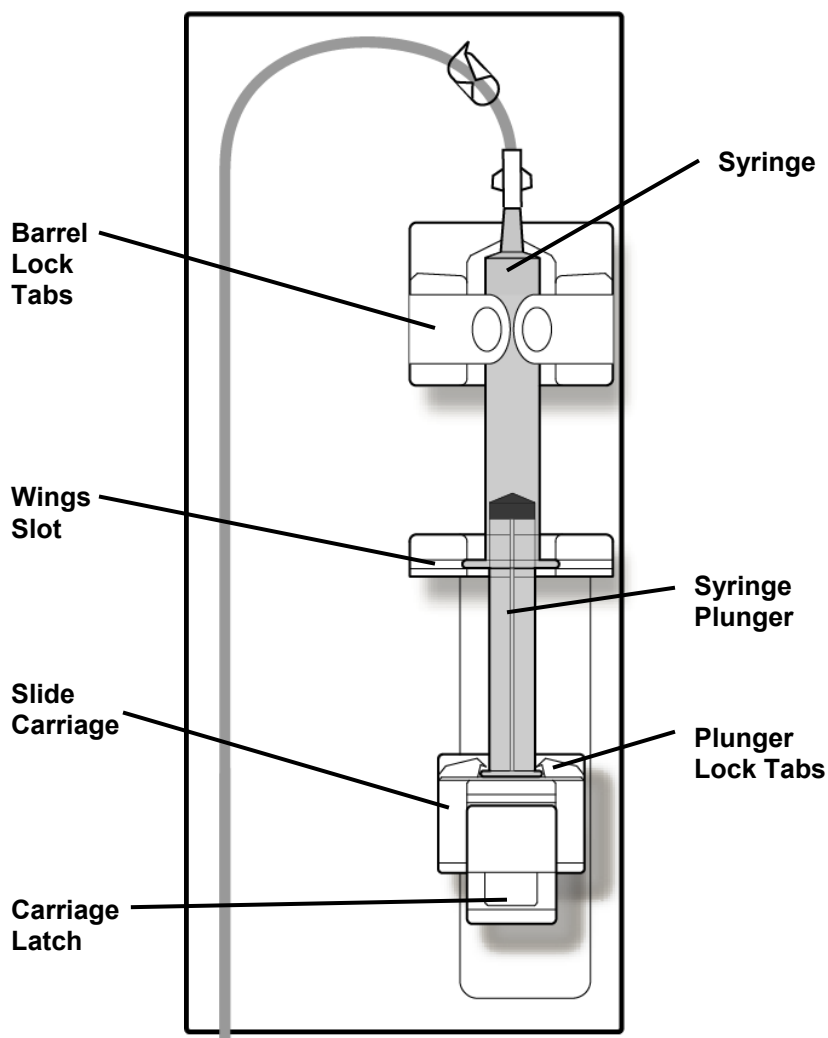

Figure 52 – The 2008T Heparin Pump Module with Syringe Loaded and Connected
6. Pull back one of the barrel lock tabs and press the barrel of the syringe into place. Slide the barrel wings of the syringe into the wings slot on the pump module. With the barrel in place, release the barrel lock tab (see Figure 52).